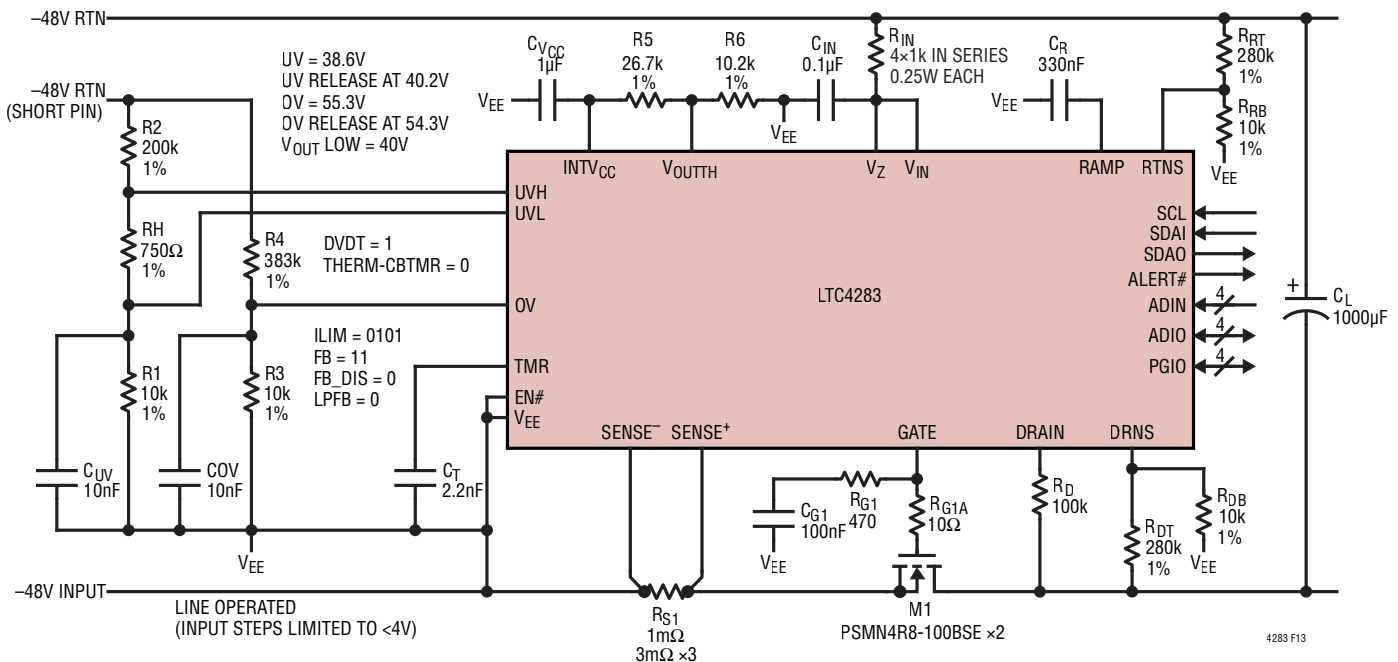

Figure 13. -48V/800W Hot Swap Controller with dV/dt Inrush Control
The second example is a line operated -48V system with supply tolerance of 10% (-43.2V to -52.8V) and maximum load power of 800W as shown in Figure 13. The load capacitance is specified as $C_L = 1000\mu\text{F}$.
INTV_{CC} (5V) and V_{EE} . The divider ratio is $5\text{V}/1.379\text{V} = 3.63$. A divider of 26.7k and 10.2k as shown Figure 13 gives a close enough ratio of 3.62.
Although it is possible to use a single, four-resistor (or three-resistor if UVH and UVL connected together) divider as shown in Example 1, Step 7, two independent dividers with 2 (OV) or 2 to 3 (UV) resistors in each divider make it easier to make non-interactive changes at a later time. The two dividers as shown in Figure 13 gives UV shutdown at 38.6V, UV release at 40.2V, OV shutdown at 55.3V and OV release at 54.3V, which covers the full input voltage range of this example. 10nF capacitors filter out noises on UVL and OV.